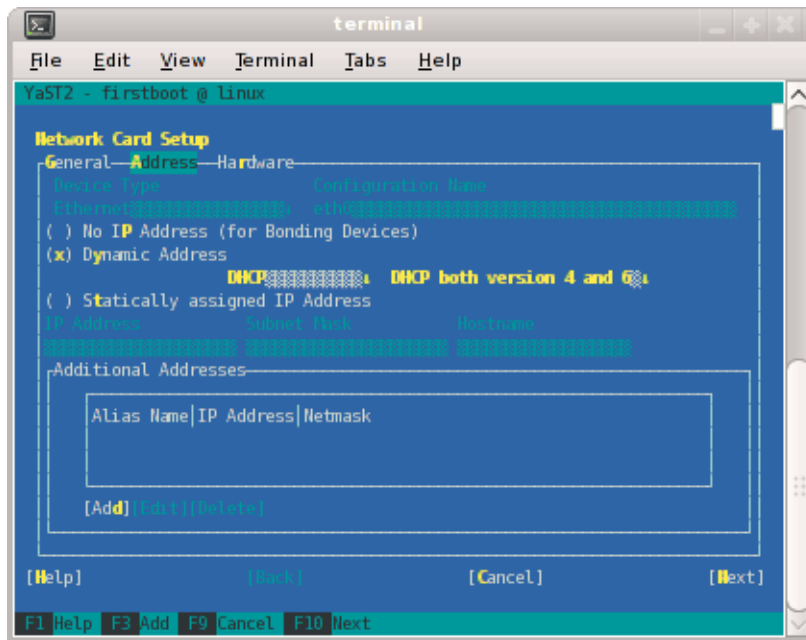

Figure 2-6 Network Card Setup Screen
9. The **Network Card Setup** screen appears, as shown in Figure 2-6 on page 44. SGI suggests using static IP addresses and not DHCP for admin nodes. Select **Statically assigned IP Address**. Once selected, you can enter the IP Address, Subnet Mask, and Hostname.